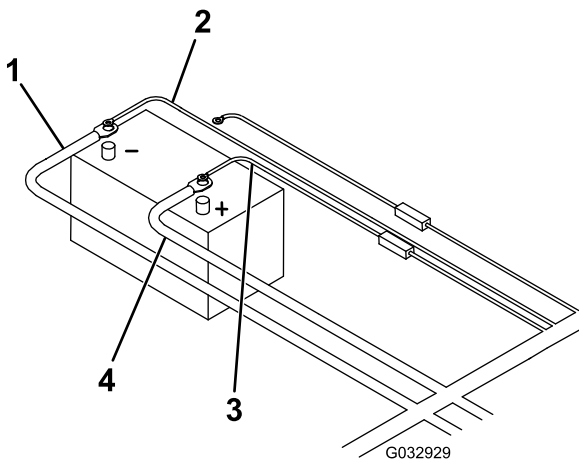

Figure 13
15. Connect the black power/ground cable to the negative (-) battery terminal (Figure 13).
16. Connect the brown wire to the negative (-) battery terminal (Figure 13).
17. Connect the free end of the battery cable to the positive (+) battery terminal (Figure 13).
18. Connect the red, fused wire to the positive (+) battery terminal (Figure 13).